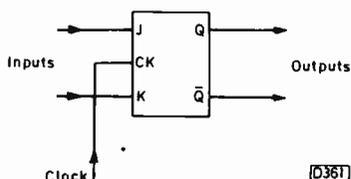

Fig. 15: JK flip-flop arrangement.
**J-K flip-flop:** A J-K flip-flop has three inputs and the usual two outputs, Q and  $\bar{Q}$  (see Fig. 15). The operation of this flip-flop is *synchronous*, i.e. changes occur only when a clock pulse is applied to the clock (CK) input. There are four possible states J and K can be in before the clock pulse, and the J-K flip-flop reacts to each one differently.